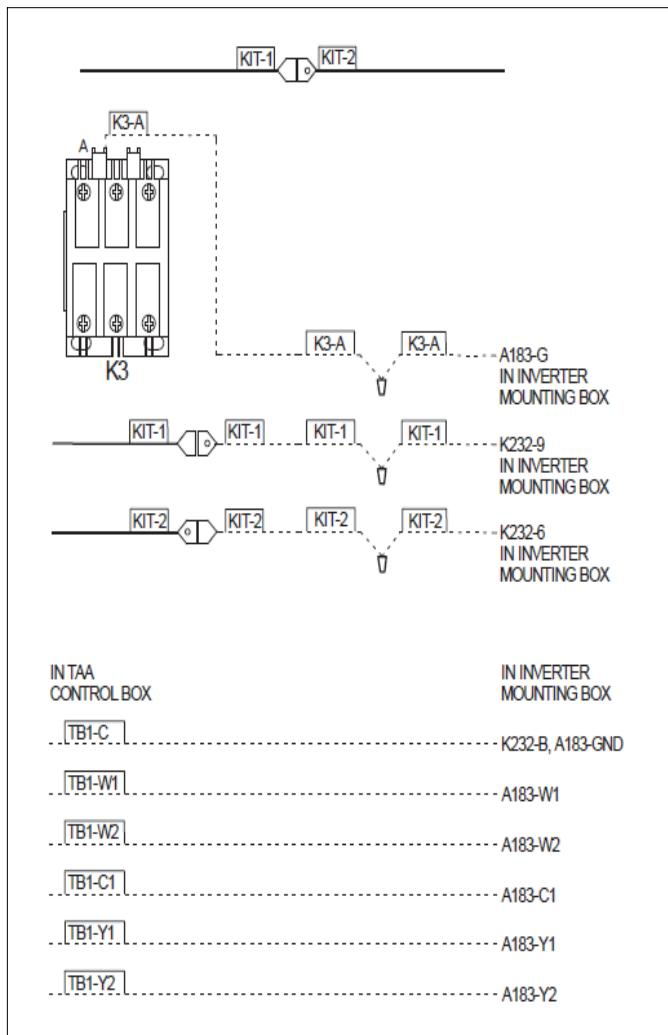

Figure 11. Low Voltage Connections – Units with 24VAC Terminal
- 5.3. Make wiring connections according to figure11.
- 5.9. Connect remaining low voltage wires to the terminal block **TB1** as shown in figure 11 and as per wire marking. Replace existing wiring diagrams on TAA unit with diagrams provided in kit.